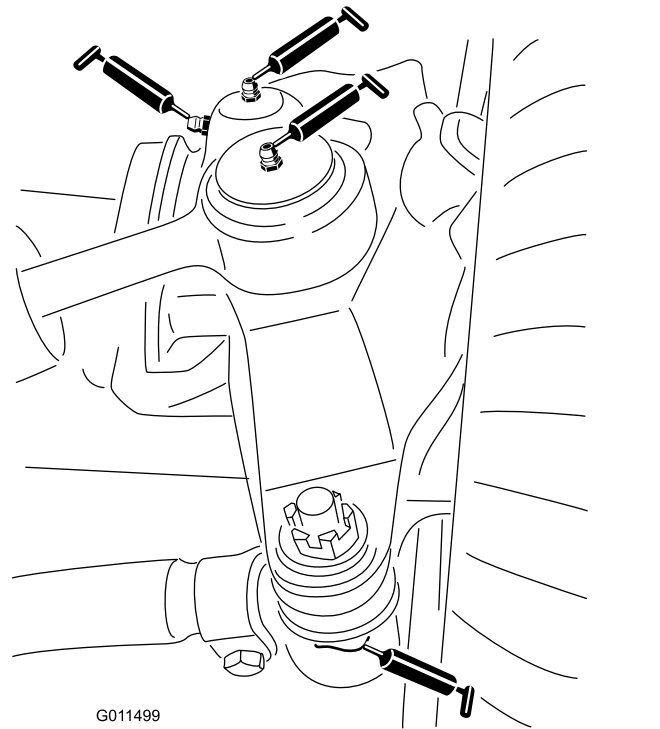

Figure 64
- 2 steering-cylinder-ball joints (Figure 64)
- 2 tie-rod-ball joints (Figure 64)
- 2 king-pin bushings (Figure 64).